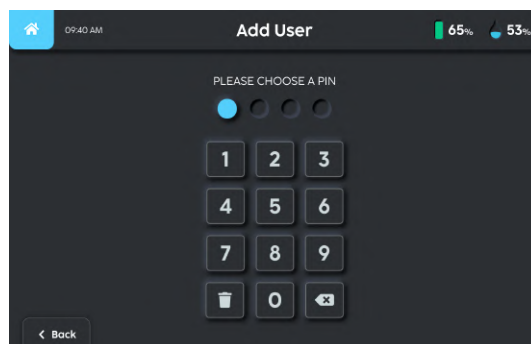

FIGURE 3-15
5. Assign a 4-digit pin to the user (**Fig. 3-15**).